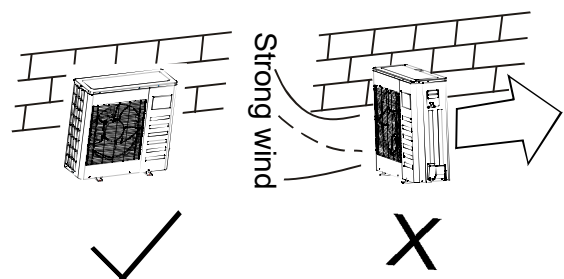

Fig.8-1
- For installations prone or exposed to strong prevailing winds or breezes such as coastal areas, please ensure that the unit is sited appropriately, by placing it lengthwise along the wall to reduce any negative impact on the condenser fans (Refer Fig. 8-1)